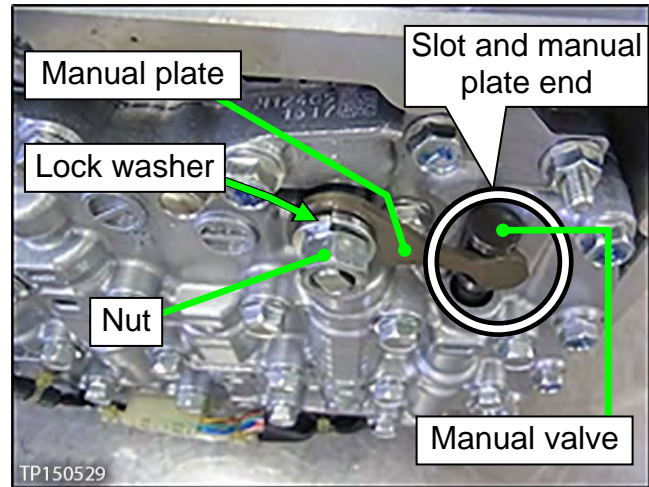

Figure 32
8. Install the manual plate, lock washer, and nut (Figure 32).